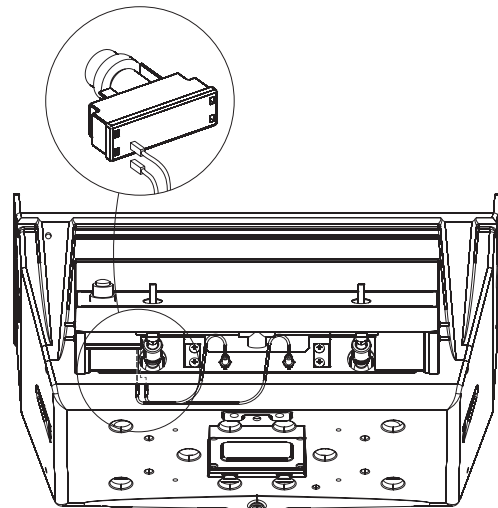

Figure 7
- Remove ignitor from the control panel by unscrewing the ignitor button and nut. Attach ignitor wires to terminals on the ignitor. See Figure 7.